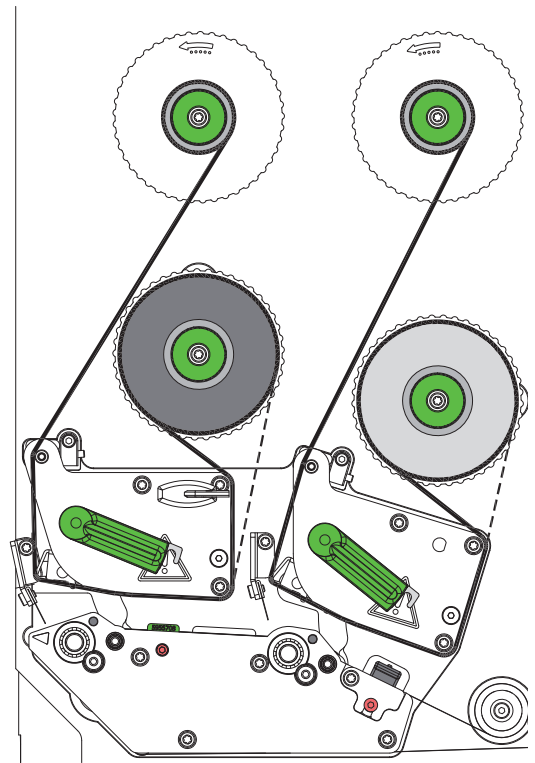

Figure 14 Transfer ribbon feed path
2. Turn lever (6) counterclockwise to open the printhead.
3. Slide transfer ribbon roll (3) onto the ribbon supply hub (4) until it stops and so that the color coating of the ribbon faces away from the printhead after loading.
4. Hold ribbon supply hub (4) firmly and turn knob (5) counterclockwise until the transfer ribbon roll is secured.
5. Slide suitable ribbon core (1) onto the transfer ribbon take-up hub (2) and secure it in the same way.
6. Guide transfer ribbon through the print unit as shown in the Figure 14. The broken line shows the path for ribbon with ink inside out.
7. Secure starting end of transfer ribbon to the transfer ribbon core (1) with adhesive tape. Ensure counterclockwise rotation direction of the transfer ribbon take-up hub here.
8. Turn transfer ribbon take-up hub (2) counterclockwise to smooth out the feed path of the transfer ribbon.
9. Turn lever (6) clockwise to close the printhead.